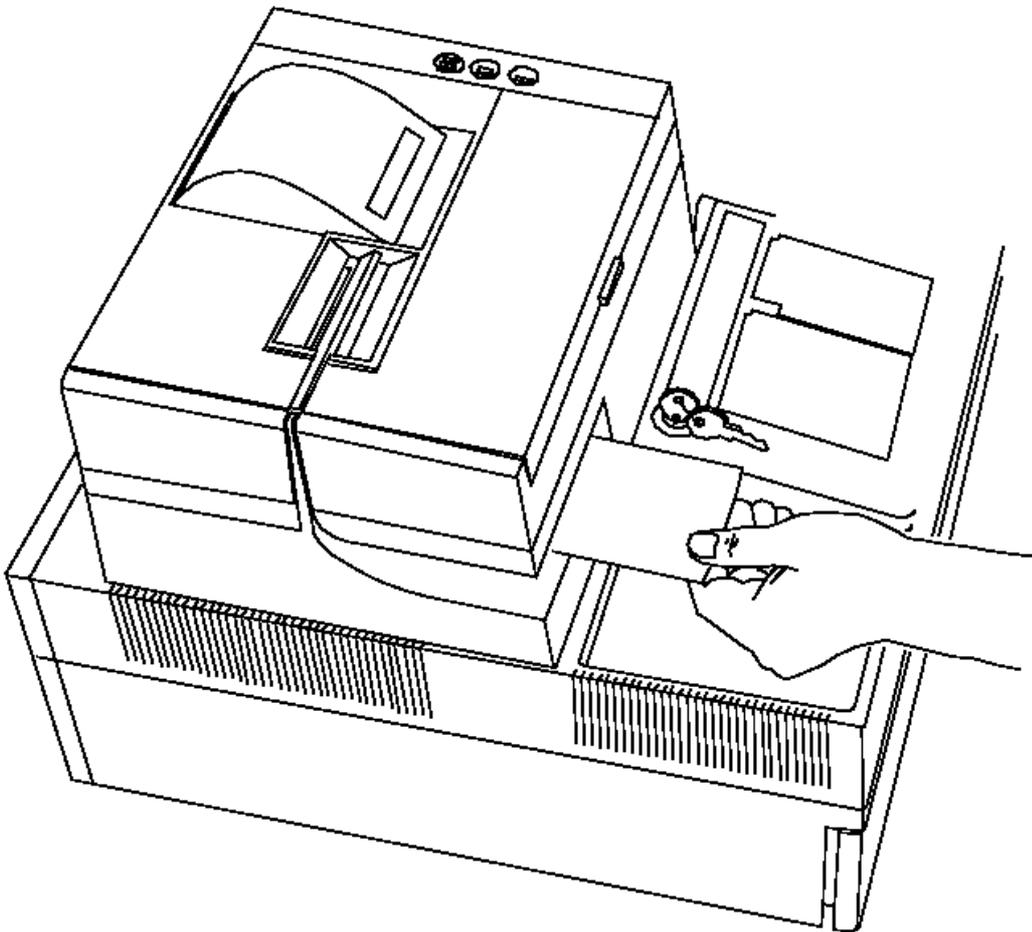

Figure 5-5. Inserting a Document into the Model 1 or 2 Printer
8. Insert a document into the document insert (DI) station. See Figure 5-5.